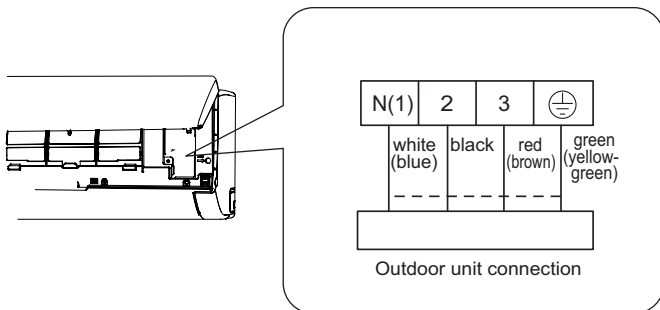

Fig.13
(3) Remove the wire clip; connect the power connection wire to the wiring terminal according to the color; tighten the screw and then fix the power connection wire with wire clip. (As show in Fig.13)